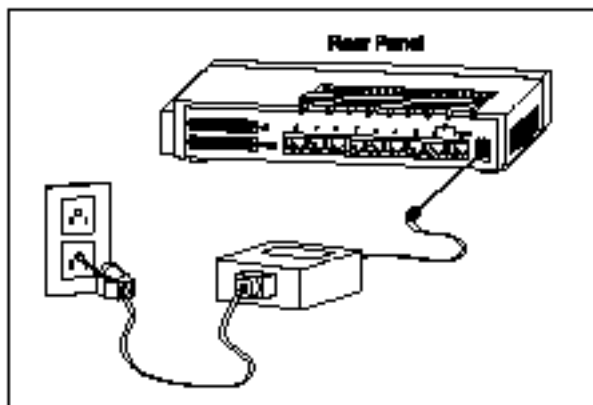

Figure 2-4 Connect to the power cord to wall outlet
2.1.4 Once the hub is connected to the power adapter, please connect the power adapter to a power cord, as shown in *Figure 2-4*.